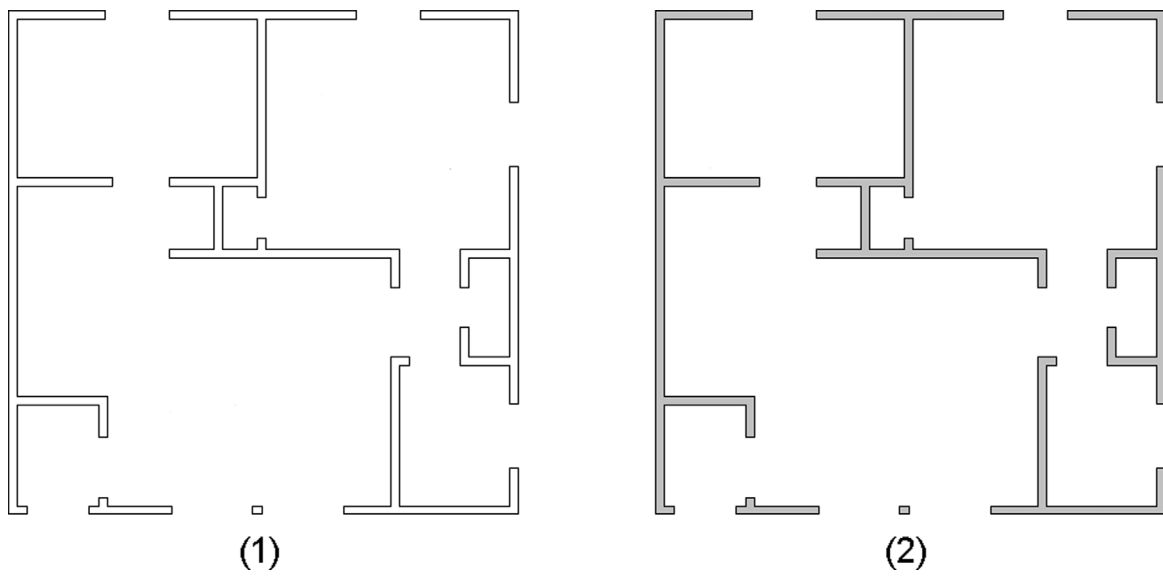
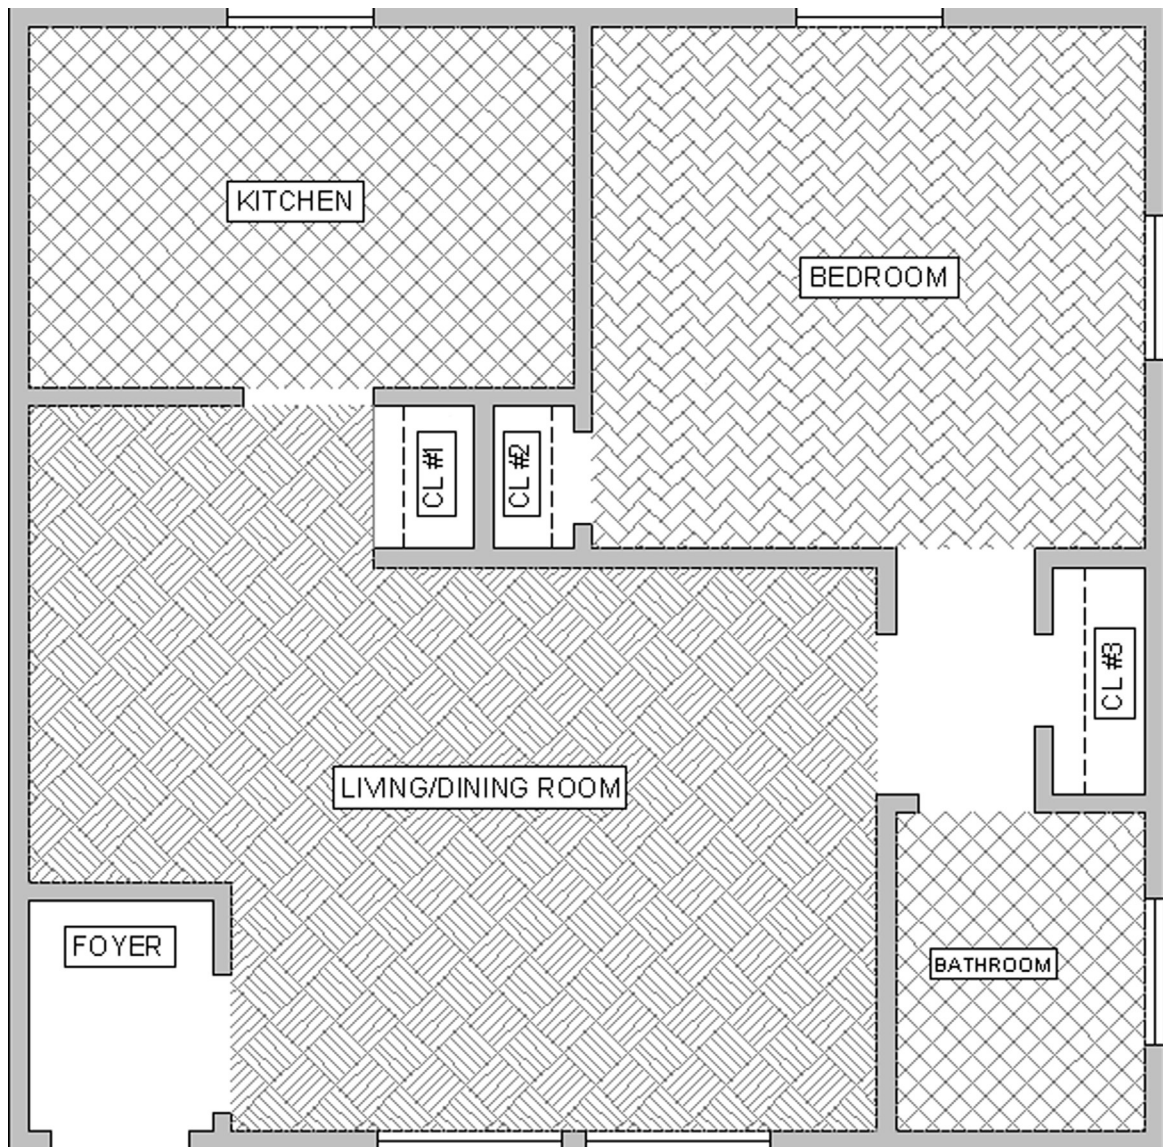

FIGURE 5.18 Wall hatching before (1) and after (2).
FIGURE 5.19 Floor plan with wall and floor hatching.
To fill in the apartment walls, freeze everything except the A-Walls and the Hatch layer. Then, use the solid fill, color Gray 9, as described earlier. If you created everything properly, there should be no gaps or breaks in the wall islands. Check to make sure the windows are drawn correctly, meaning the wall has to have an actual closed gap, into which the window is inserted. Fig. 5.18 shows what everything should look like prior to wall hatching (1) and right after (2). One possible approach to hatching the apartment is shown in Fig. 5.19.